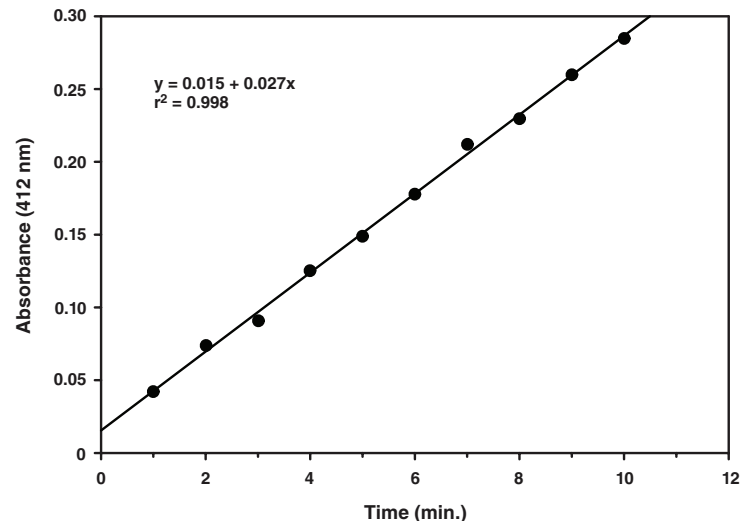

Figure 2. Activity of human recombinant PAF-AH
7. Read the absorbance once every minute at 405-414 nm using a plate reader to obtain at least five time points (see Figure 2, page 17). The reaction is linear to at least 1.2 absorbance units.
- a) Plotting the average values as a function of time to obtain the slope (rate) of the linear portion of the curve (a graph is shown using human recombinant PAF-AH (see Figure 2, page 17).